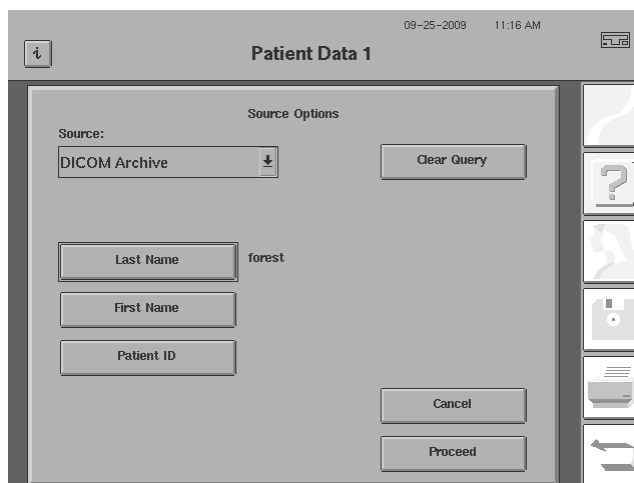

Figure 14.66 Recalling Patient from DICOM Archive
- 3 You must limit your patient selection with at least one entry by using the Last Name, First Name, or Patient ID query buttons in order to proceed (Figure 14.66). These query fields are case independent. Specify the limitations that you wish to place on your search of all available patients from the DICOM Archive. These limitations determine which patient(s) are selected. Select the CLEAR QUERY button to clear all these query fields.